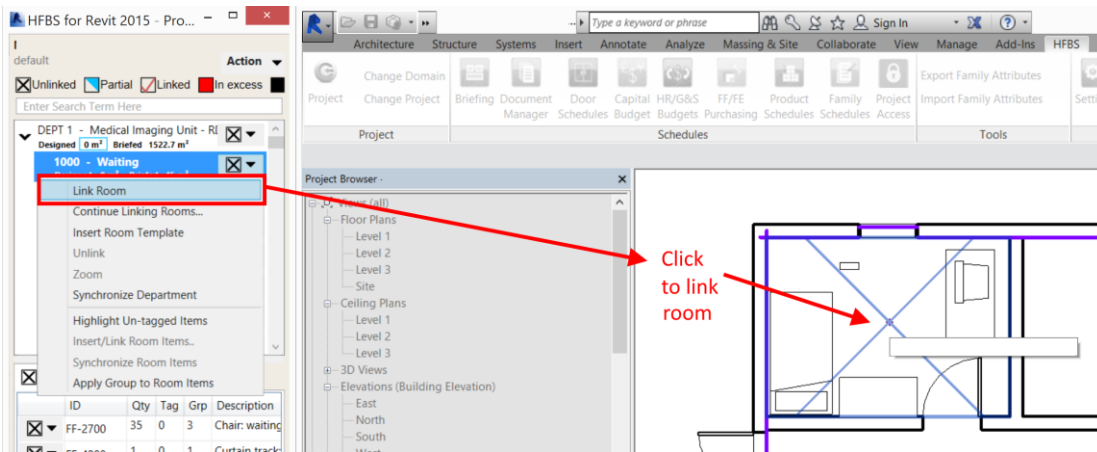

Figure 12 *Project Manager* window - Linking a HFBS room with a Revit room.
4. In the open Revit project, select the Revit room to link to (see Figure 12).